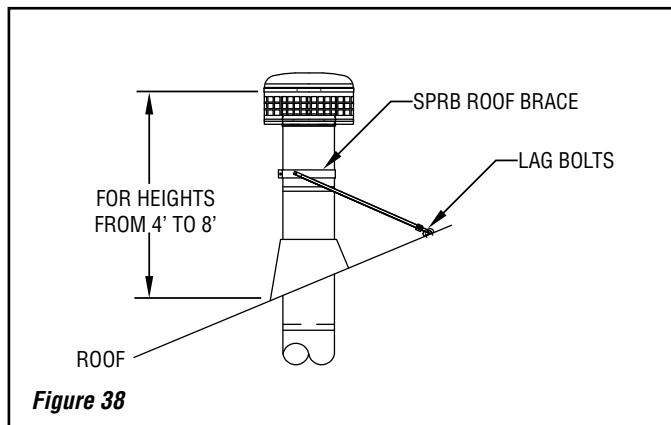
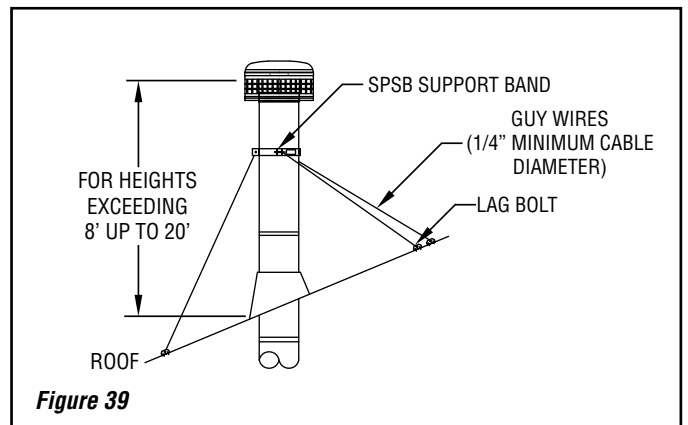

Figure 38
Figure 39
Select the proper support for your application-using either a roof brace (**Figure 38**), or a support band with guy wires (**Figure 39**)
3. Position the support legs as shown in **Figure 38**. The length of the support legs can be adjusted by loosening the bolt on the leg clamp.